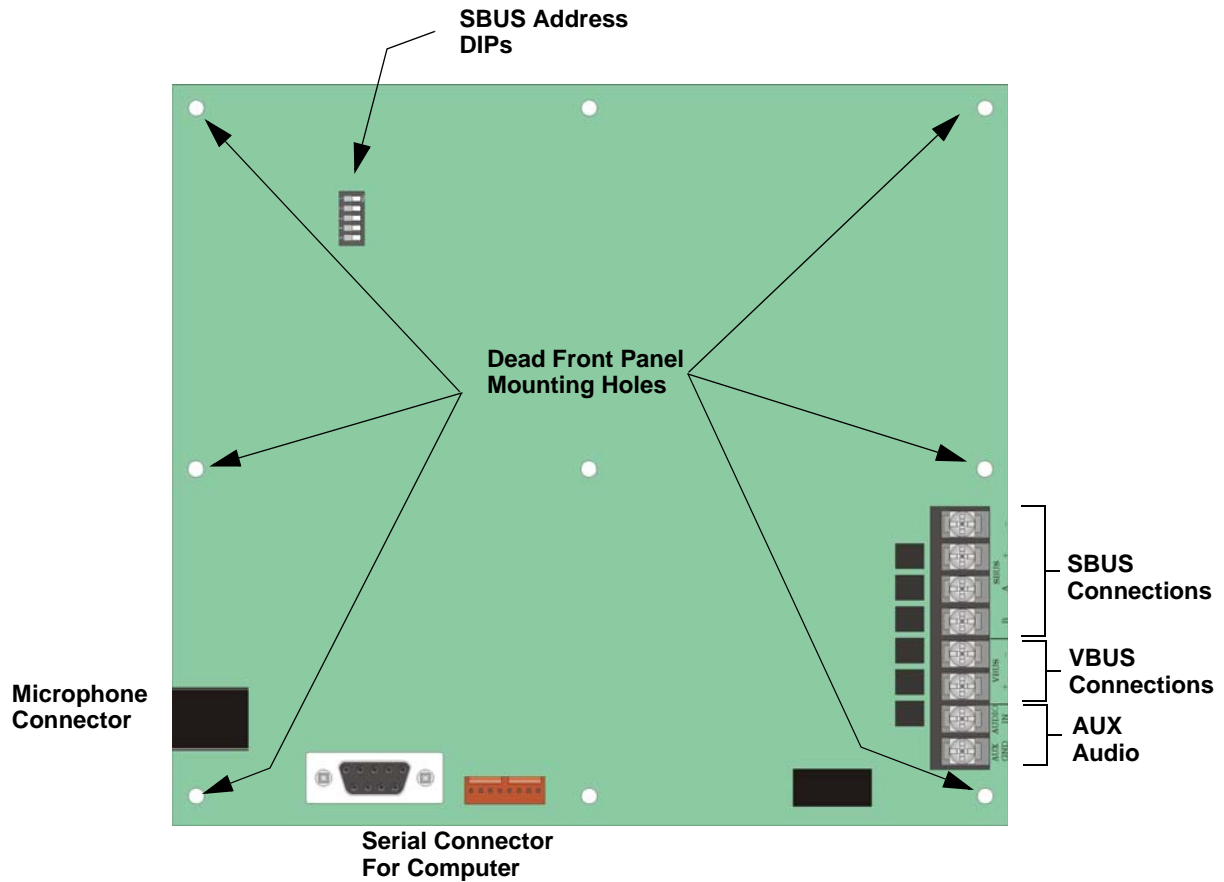

Figure 3-6 Back View of VIP-VCM
3. Disconnect any devices connected to the VBUS. See Figure 3-6.